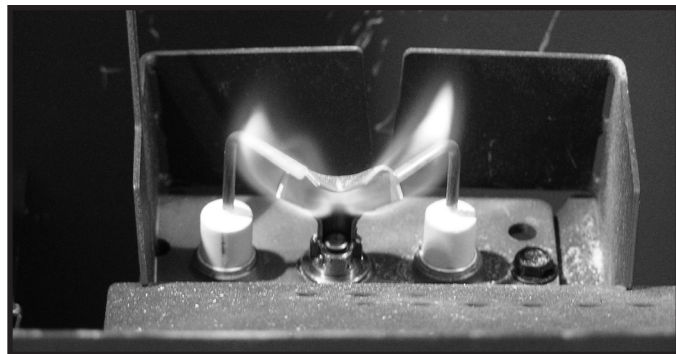

Figure 4.1 IPI Pilot Flame Patterns
- Inspect pilot flame pattern and strength. See Figure 4.1 for proper pilot flame pattern. Clean or replace orifice spud as necessary.